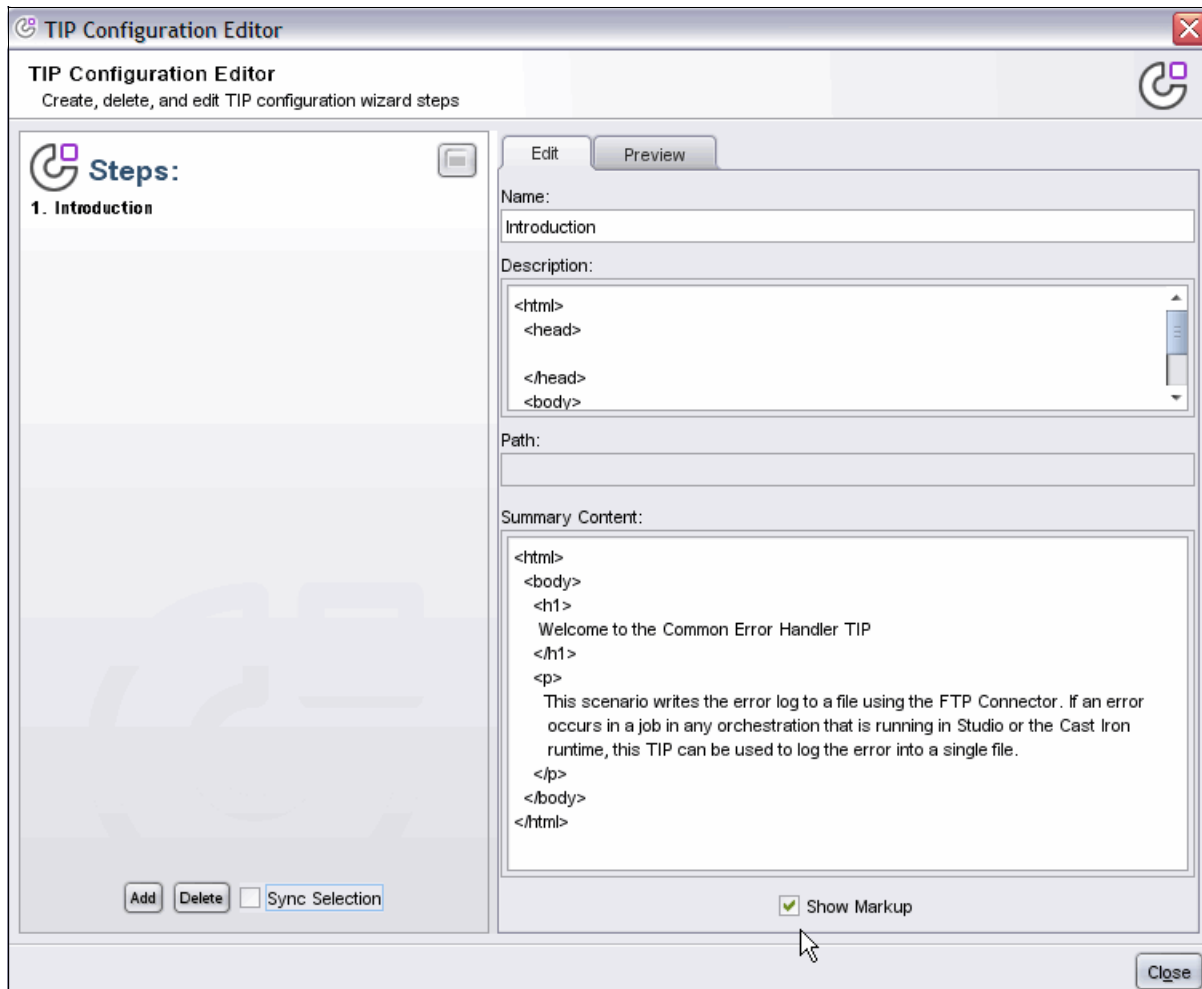

Figure 7-8 Introduction step
3. Add a Summary Step that gives an overview of the scenario (Figure 7-8 on page 299):
- d. Enter a description of the TIP in the Summary Content field, as shown in Figure 7-8 on page 299. To see how your page will look when the TIP configuration wizard is executed, click the **Preview** tab.